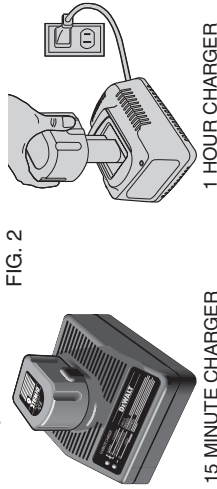

FIG. 2
2. Insert the battery pack into the charger. The red (charging) light will blink continuously indicating that the charging process has started (Fig. 2).